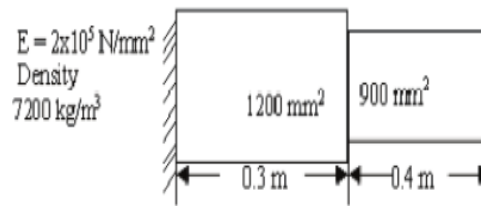

Figure.5
9. Consider the axial vibrations of a steel bar shown in Figure.5